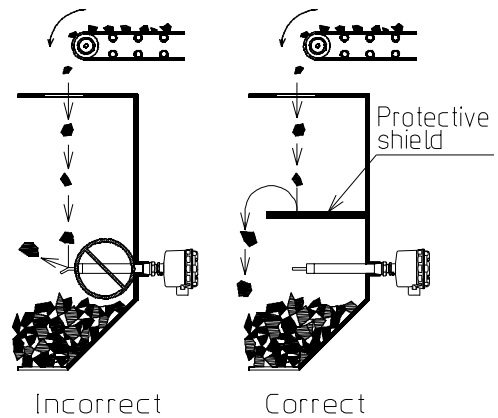

Fig. 6
- (1) Vibration reed shall be kept away from direct material flow. Otherwise, the vibration reed may be bent. If necessary, provide protective shield at least 10cm above the sensor. See Fig. 6.